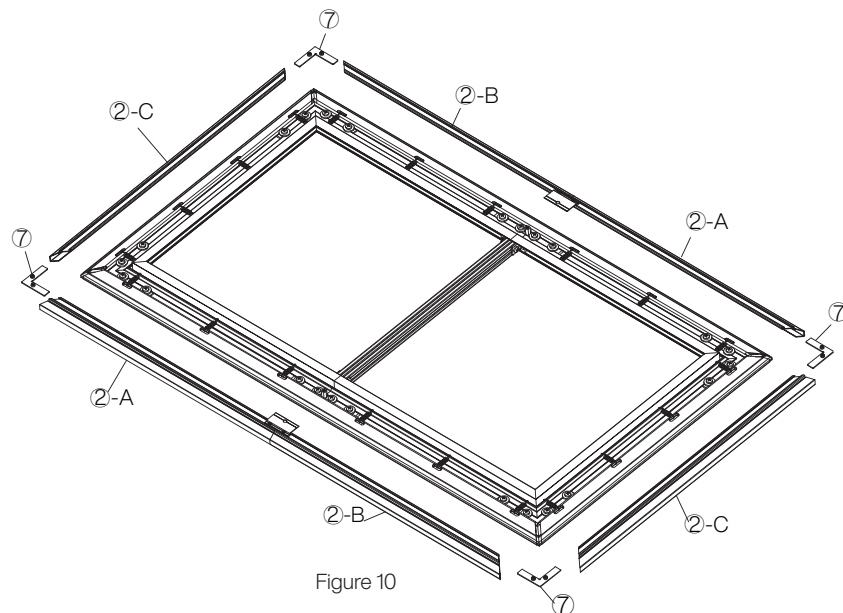

Figure 10
5.2 Put the outer frame against the frame screen, align the four corners, connect the surroundings with corner connector and lock all the screws (Figure 10)